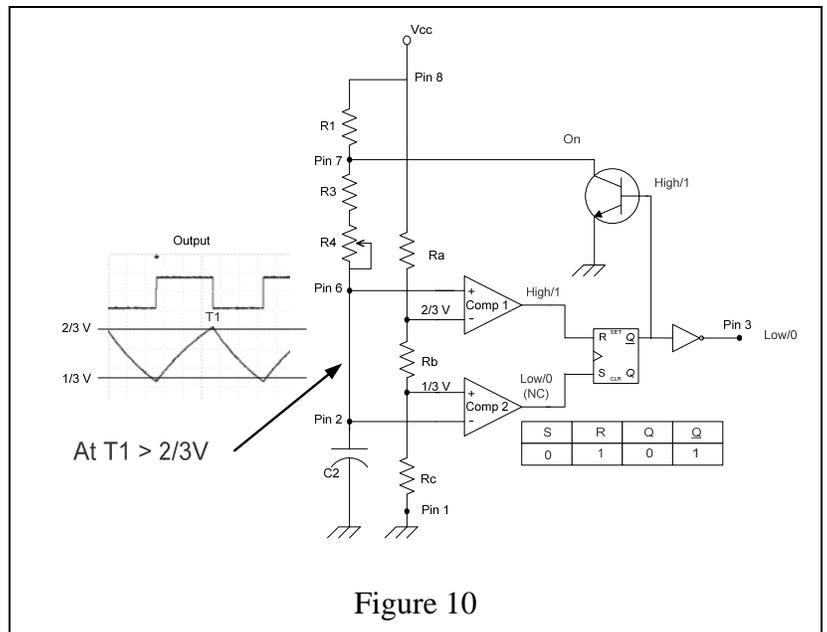

Figure 10
**Time  $T1$ .** At time  $T1$ , the voltage across  $C2$  has risen to just **above**  $2/3V_{cc}$  (figure 10). This voltage applied to the inverting input of Comp2 is well above the  $1/3V_{cc}$  reference voltage applied to the non-inverting input and the output of Comp2 remains unchanged at low. This voltage when applied to the non-inverting input of Comp1 is greater than the  $2/3V_{cc}$  reference voltage applied to the inverting input causing the output of Comp1 to change to high. With the  $R$  input now 1, and the  $S$  input now 0 on the flip-flop, the  $Q$  output flips to high. This high when passed through the inverter produces a low on the pin 3 output. But now, this same high output from the flip-flop turns on the transistor allowing for the grounding of the junction between  $R1$  and  $R3$  and  $C2$  begins to discharge.